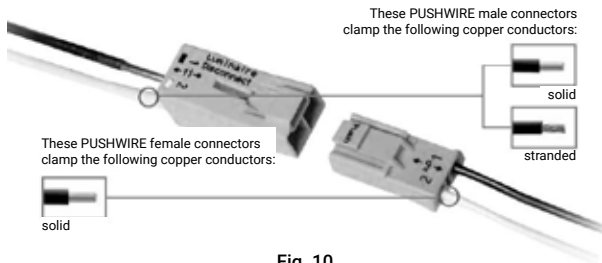

Fig. 10
10. Connect AC Line and Neutral to Cleanse Troffer Retrofit fixture with provided luminaire disconnect as shown. (See Fig. 10)